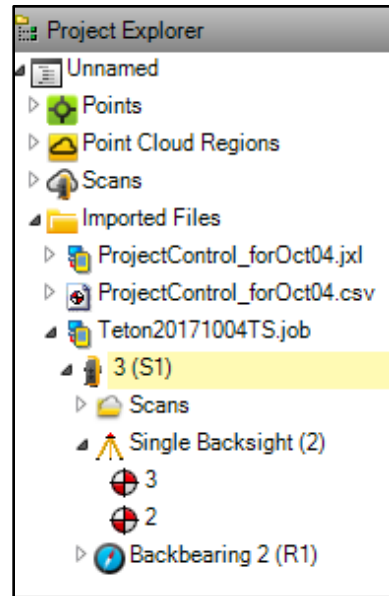

Figure 8.—Project Explorer window.
- a. Expand the “Imported Files” folder under “Project Explorer.” Continue to expand the “.job” file, station view, and “Single Backsight (#).” There the user will find the two merged points (figure 8).